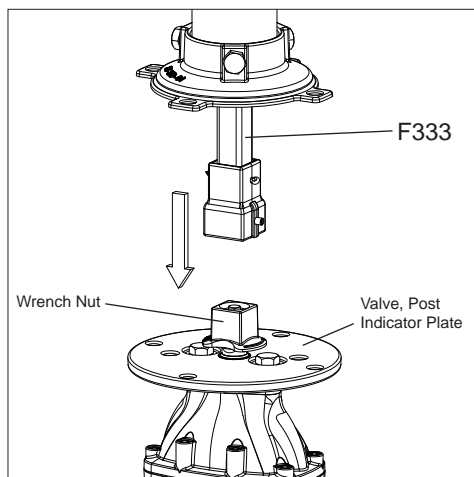

Fig. 4A
4. Holding the Lower Stem (F333) so that it will not slide completely out of the Lower Barrel (F332), lift the post indicator above the valve. (See Fig. 4A)